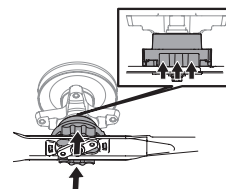

Figure 3
- Push upward on the blade collar and hold it. See Figure 3.
- Push the blade upward against the blade adapter until the collar above rises. See Figure 3.